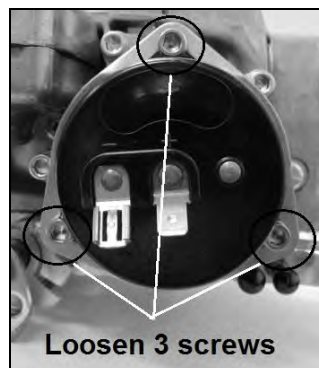

Figure 23
3. Rotating the black pod cover controls the choke timing. To rotate the cover, loosen the three Allen screws that secure the cover to the pod. (See Fig. 23) Rotating the cover clockwise will decrease the amount of time it takes the choke to pull off, while counter-clockwise will increase the time it takes. This adjustment will depend on your climate and the vehicle it is installed on.